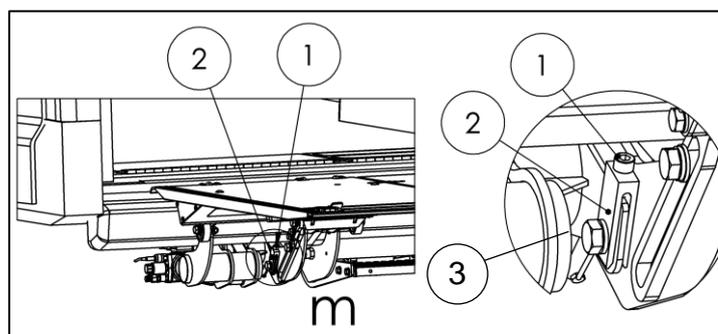

Fig. 75
- To align the platform parallel to the vehicle floor, adjust the lifting gear using the left-hand adjustment fork (adjustment screw accessible from above) (see Fig. 75).